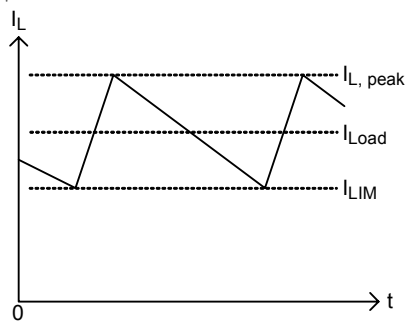

Figure 7. "Valley" Current Limit
RT8208A/B has cycle-by-cycle current limiting control. The current limit circuit employs a unique "valley" current sensing algorithm. If the magnitude of the current sense signal at CS is above the current limit threshold, the PWM is not allowed to initiate a new cycle (Figure 7). In order to provide both good accuracy and a cost effective solution, the RT8208A/B supports temperature compensated MOSFET RDS(ON) sensing. The CS pin should be connected to GND through the trip voltage setting resistor, RCS. The CS terminal source 10μA ICS current, and the trip level is set to the CS trip voltage, VCS as in the following equation.